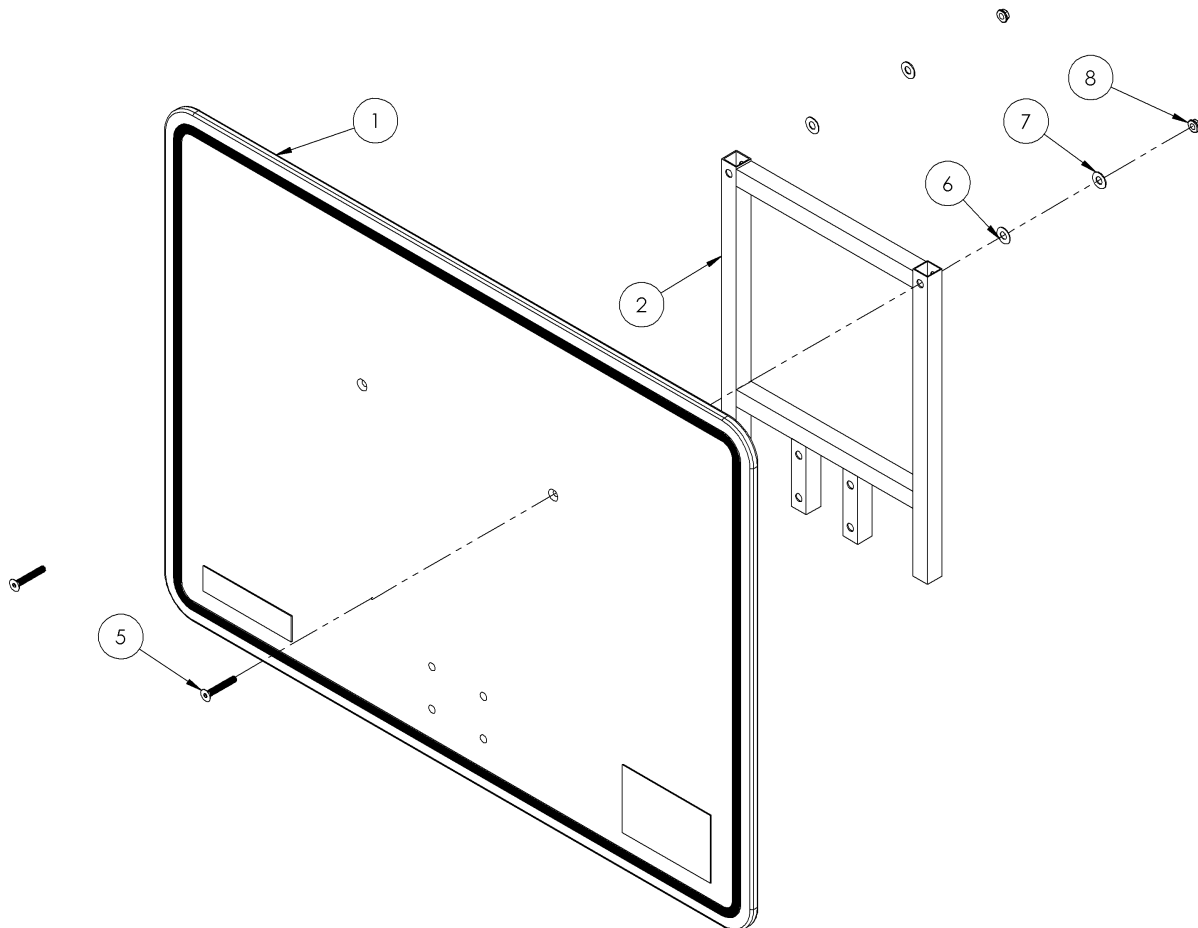

Fig.1
1. Assemble the Acrylic Backboard (1) to the Square Frame (2) with the 5/16"-18 X 2" Flat Socket Head Cap Screw SS (3), 3/8" Nylon Washer (4), 3/8" Flat Washer SS (5), and 5/16"-18 Flanged Nut SS (6), as shown in **FIGURE 1**. **DO NOT SET THE BACKBOARD ON CONCRETE OR OTHER ROUGH SURFACES.** Cardboard from the packaging is a good surface to work on. Do not fully tighten any of the hardware until all parts are assembled. **The pre-installed rubber bumpers in the Square Frame (2) must be oriented away from the Acrylic Backboard (1), as shown in the image below.**